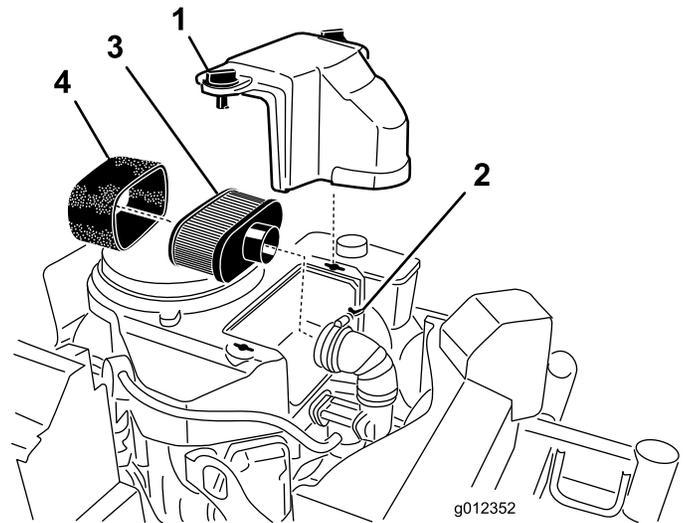

Figure 30
2. Clean around the air cleaner to prevent dirt from getting into the engine and causing damage (Figure 30).
3. Rotate the cover knobs 1/4 turn counterclockwise and remove the air-cleaner cover (Figure 30).
4. Rotate the thumbscrew of the hose clamp counterclockwise until you can separate the air-cleaner assembly from the inlet duct (Figure 30).
5. Carefully pull the foam element off the paper element (Figure 30).
1. Inspect the element for tears, an oily film, or damaged (Figure 30).
1. Inspect the element for tears, an oily film, or damage to the rubber seal (Figure 30).
- Carefully slide the foam element onto the paper air-cleaner element (Figure 30).
- Align the air-cleaner assembly onto the inlet duct and secure it with the hose clamp (Figure 30).
- Align the air-cleaner cover onto engine cover and secure the cover by rotating the cover knobs 1/4 turn clockwise (Figure 30).